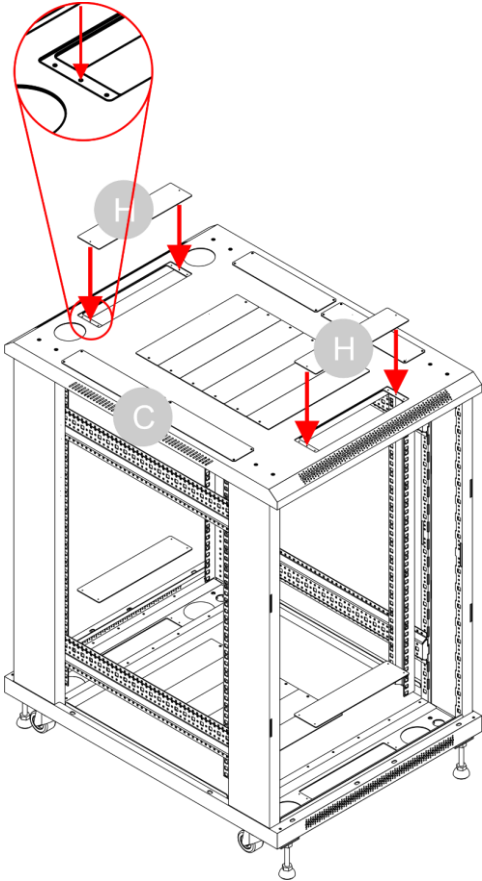

Fig. 33
- 17) Put the 2 **metal plates (H)** on top of the holes of the **top plate (C)**, as shown in Fig. 33.